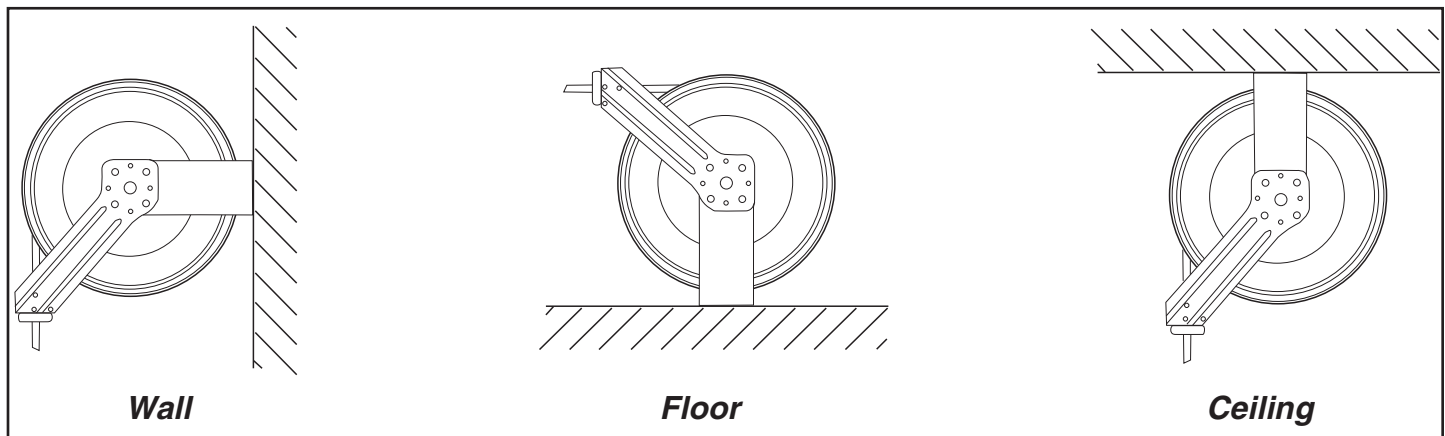

Fig. 2
1. Hose reel is mounted by four 1/2" (or 12.7mm) holes for mounting to a suitable surface. Figure 2 is a template showing the correct location of the 4 mounting holes in the base.
2. The reel is supplied with a hose guide roller bracket. The bracket position may be changed depending on the reel mounting position. Figure 2 shows "Typical Mounting Positions". If bracket position needs to be changed, perform the following steps: